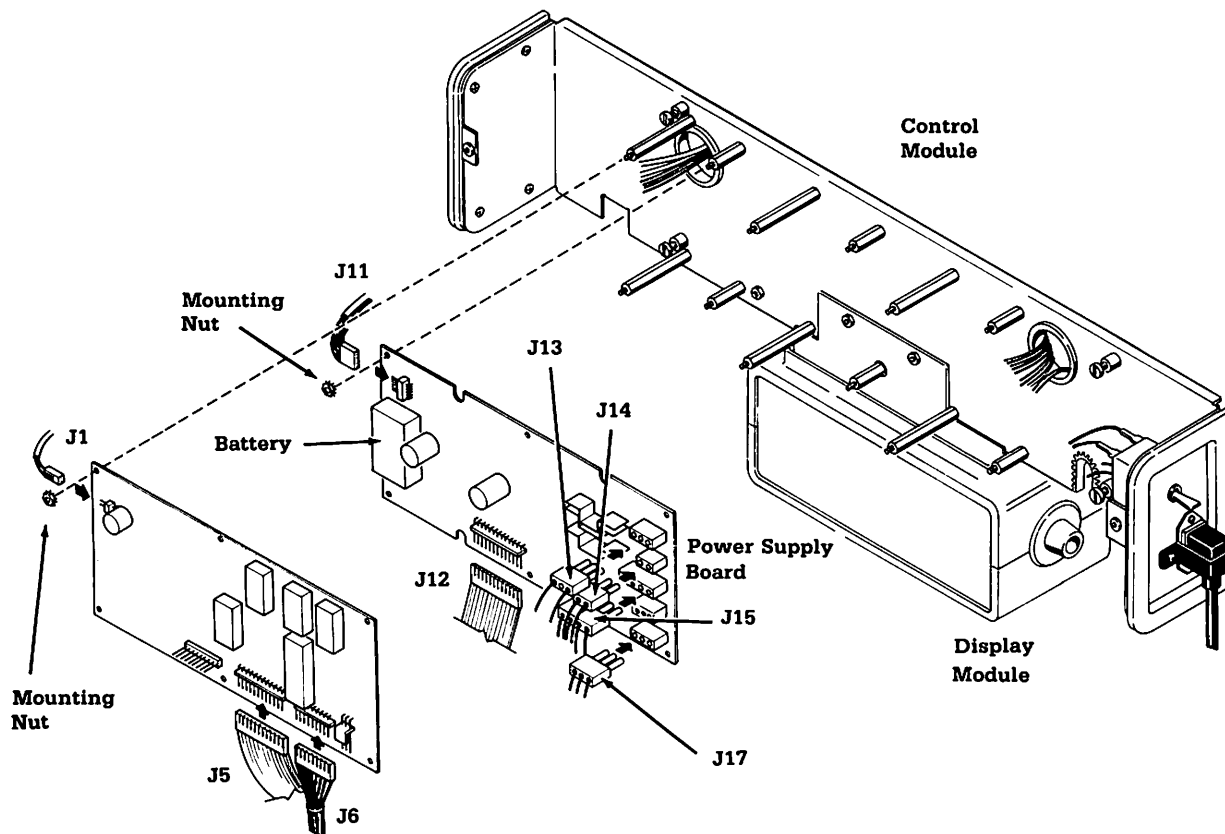

Figure 5-7. Control Board and Power Supply Board Assembly.
B. Control Board and Power Supply Board Replacement (Figure 5-7)